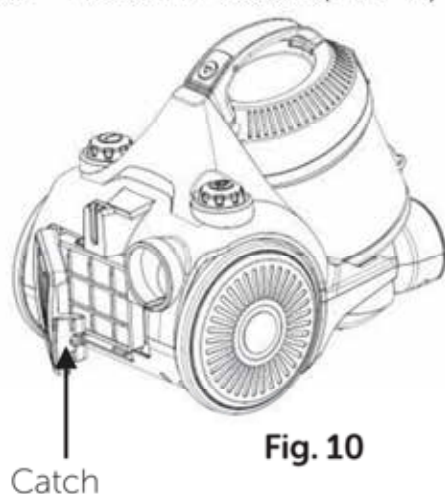
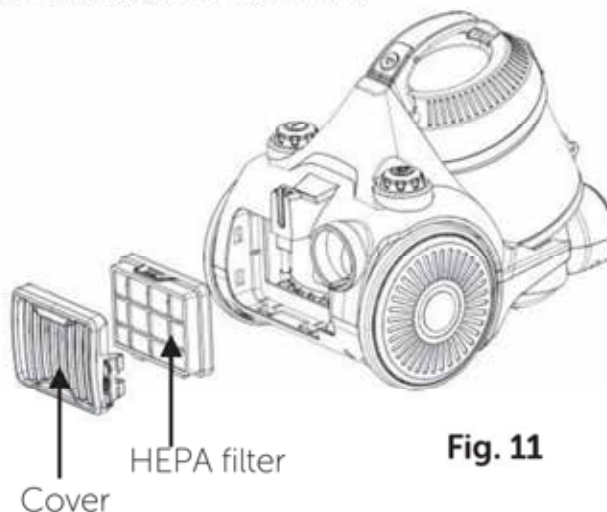

Fig. 10
Fig. 11
7. To clean or replace the air outlet (HEPA) filter, press the catch at the side of the outlet filter cover (fig. 10) and lift off the cover. Wash and dry the filter (fig. 11) in accordance with step 4 above.